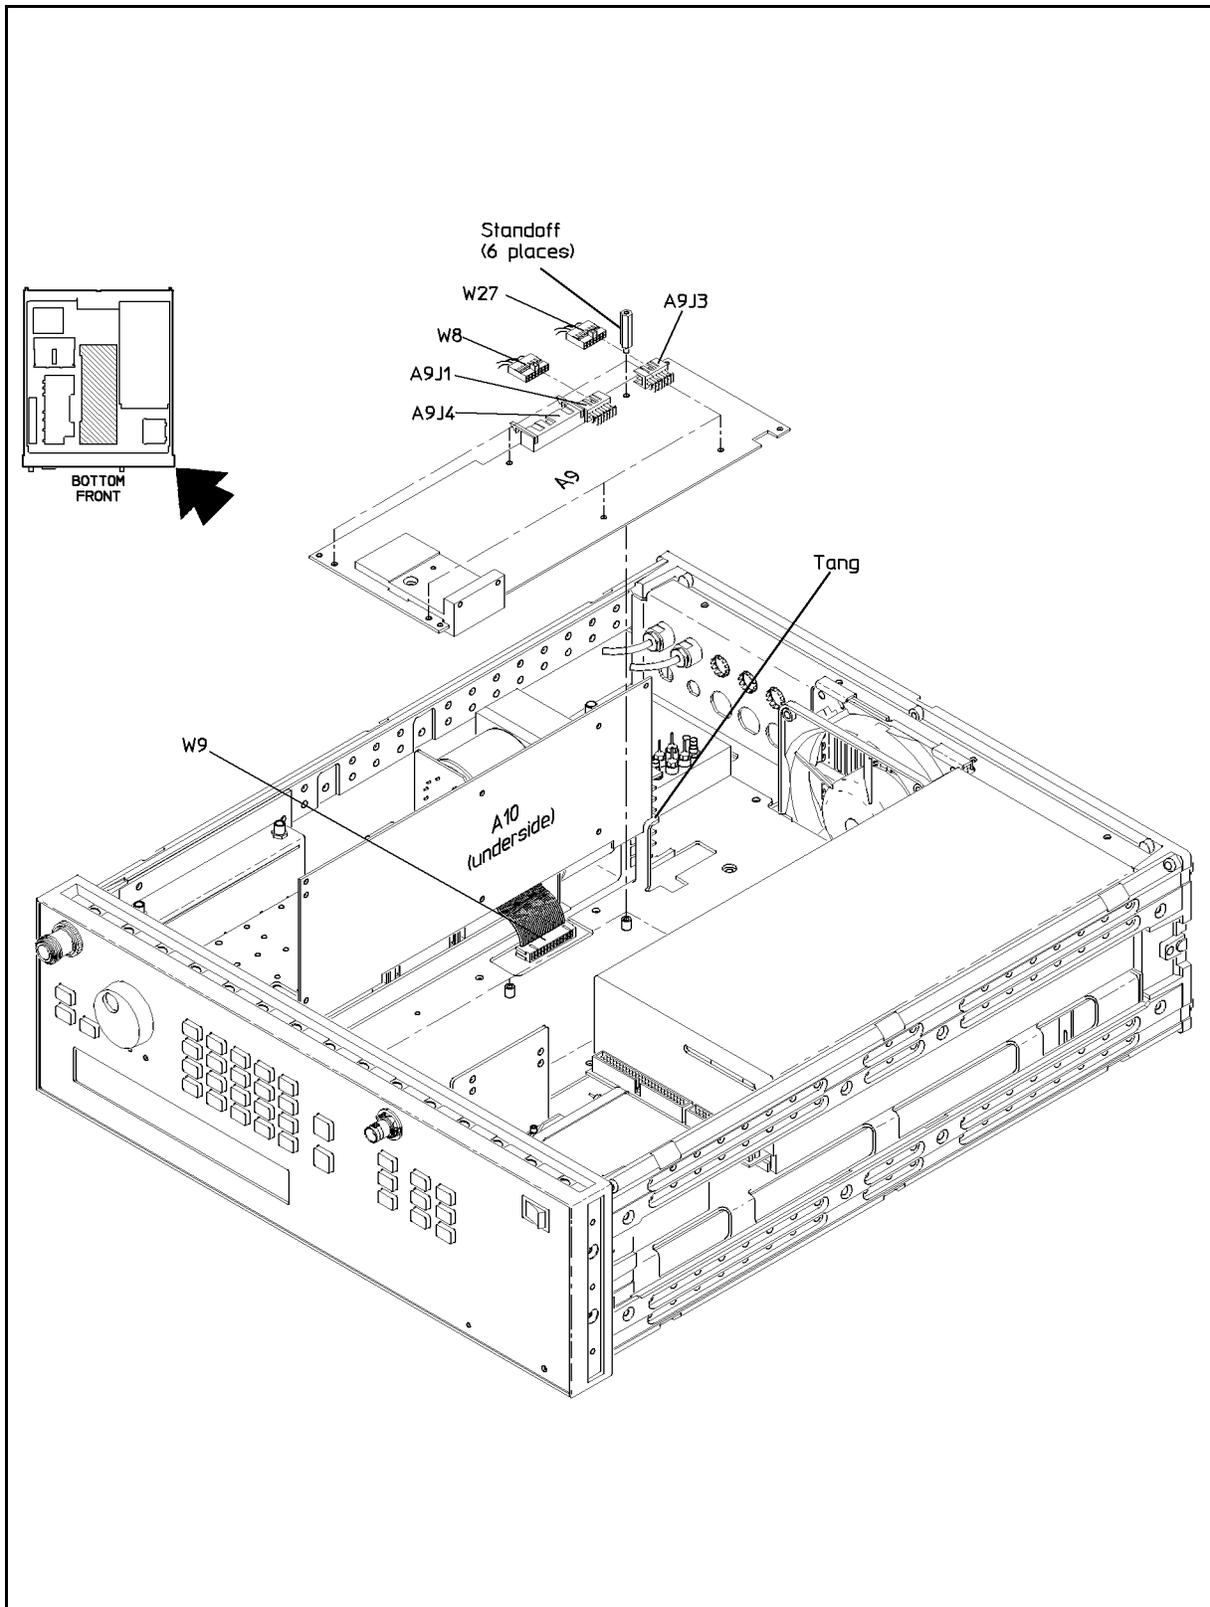

Figure 5-21. YIG Driver Board Removal
2. In the introduction to this chapter, refer to “Multi-wire Cables” and Figure 5-21. Then, disconnect the following cables: